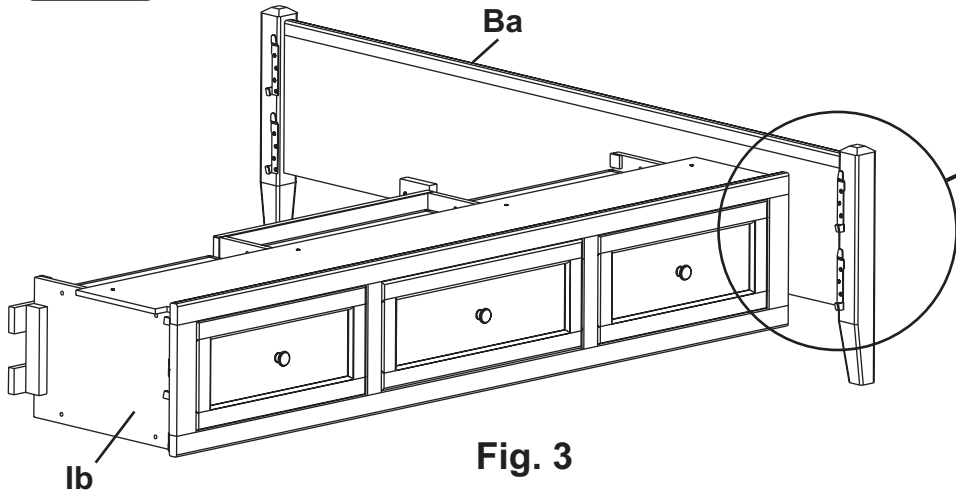

Fig. 3
3. To attach the Footboard (Ba) to the Pedestal Assembly (lb), align the Brackets and slide the Pedestal Assembly down on to the Footboard (Ba). See Figures 3 and 3a.